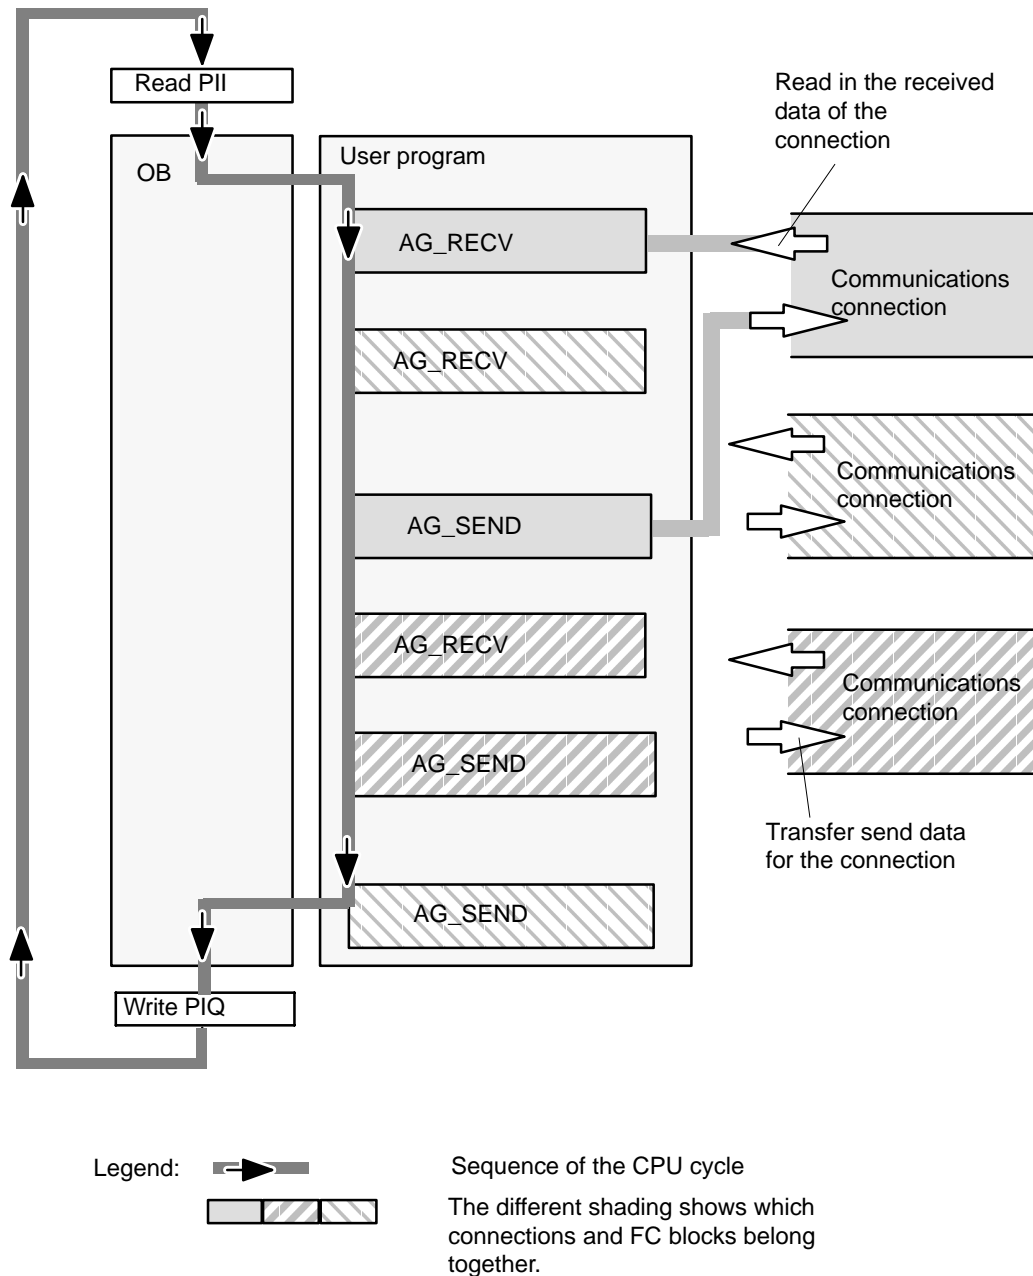

Figure 4-2 Typical sequence of function calls in the CPU cycle
- The user program consisting of any number of blocks (OBs, FBs or FCs → see also /5/ accesses several connections (Figure 4-2 illustrates three connections).